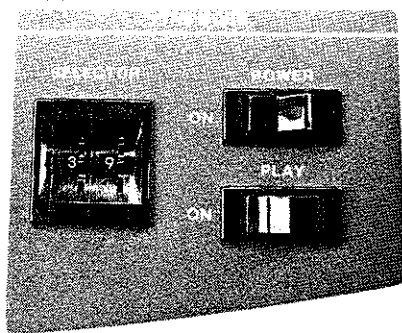

Figure 2-3. "The Horn".
②9 **AUX. BATTERY** Switch — When this switch is pressed, jumper solenoids connect the generator and coach batteries together (in parallel) to provide extra power for cranking the generator or coach. Releasing the switch immediately isolates the two battery systems.
③0 **THE HORN**, Figure 2-3 — This corner of the dash has 3 different switches for use with the musical horn.